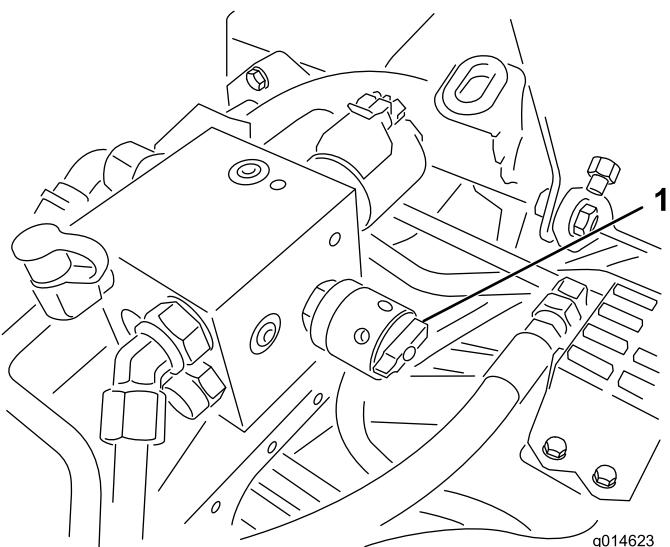

Figure 39
4. To set the reel speed, rotate the knob (Figure 39) until the indicator arrows are in line with the number designating desired setting.